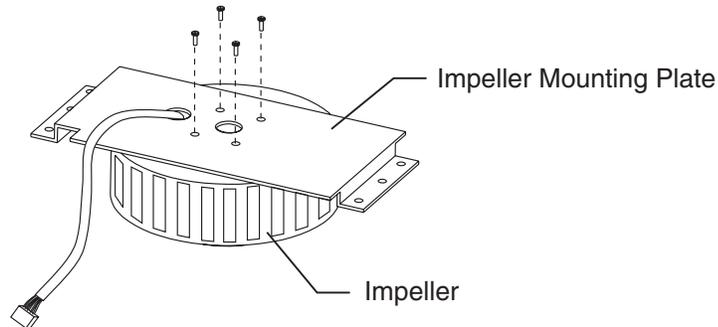

Figure 8-3: Replacing the Impeller
6. Remove the impeller by removing the four screws from the back of the impeller mounting plate. See Figure 8-3. Replace with new impeller.